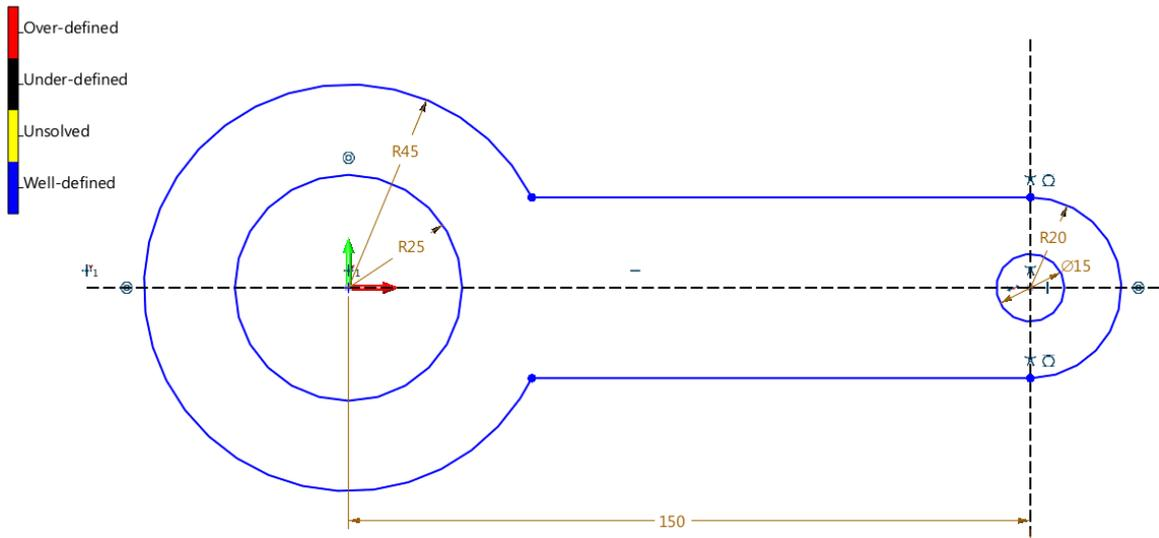

Figure 102 Add Two Horizontal Lines
STEP 06 Draw two horizontal lines tanged with the circle of radicus=20mm. Then trim the sketch. The recommend features is “One Touch Trim”. See the Figure 102.